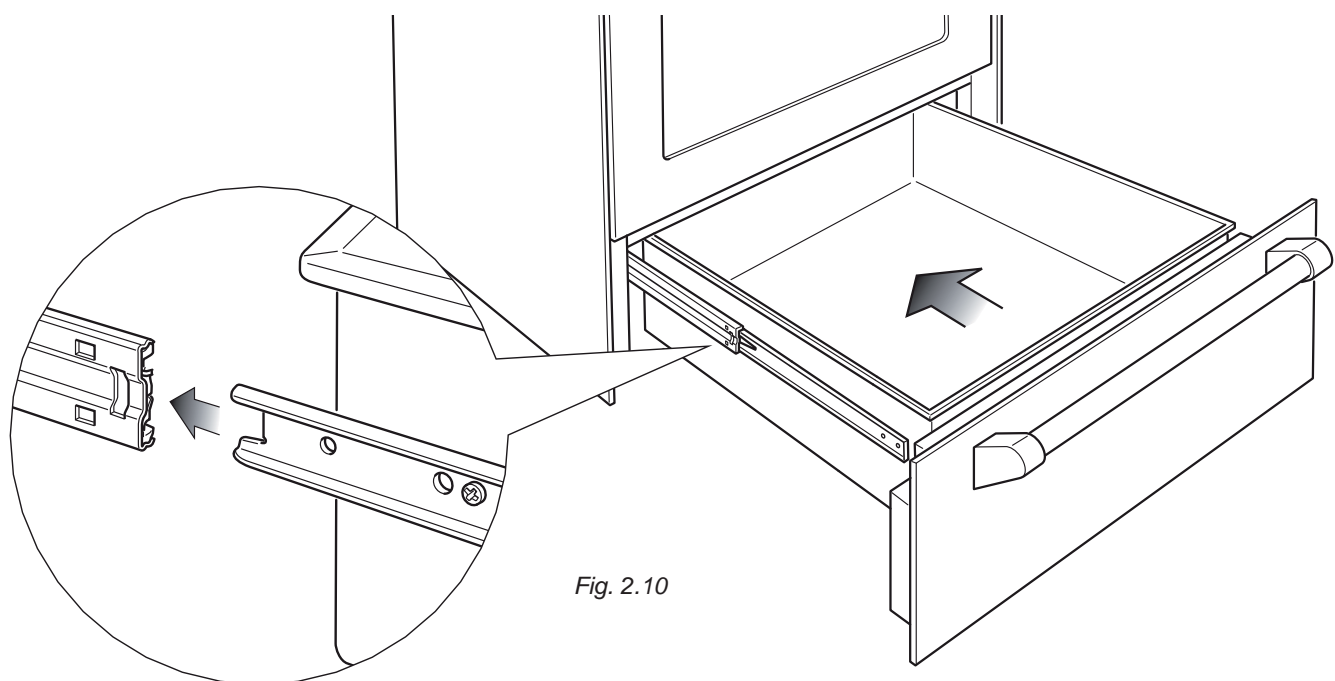

Fig. 2.10
Fitting the warming drawer (fig. 2.10):
1. Insert the drawer guides into the range guides (fig. 2.10).